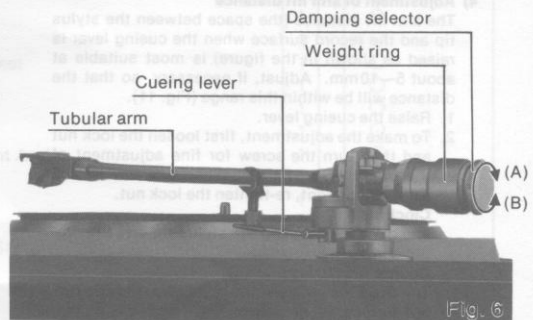

Fig. 6
2. While turning the weight ring in direction "A" or "B" (as indicated by the arrows), adjust so that the tonearm is as horizontal as possible (Fig. 6). Do not touch the damping selector while making this adjustment.